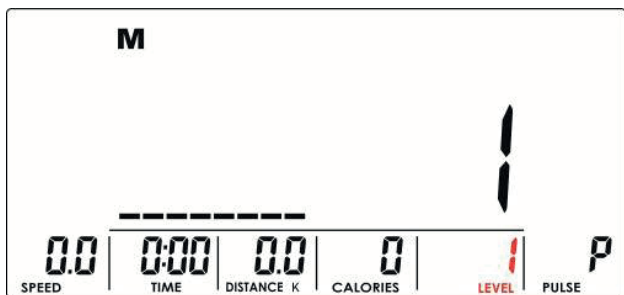

Fig. 10
2. Set the intensity level with the encoder (fig. 10). The default value is 1.